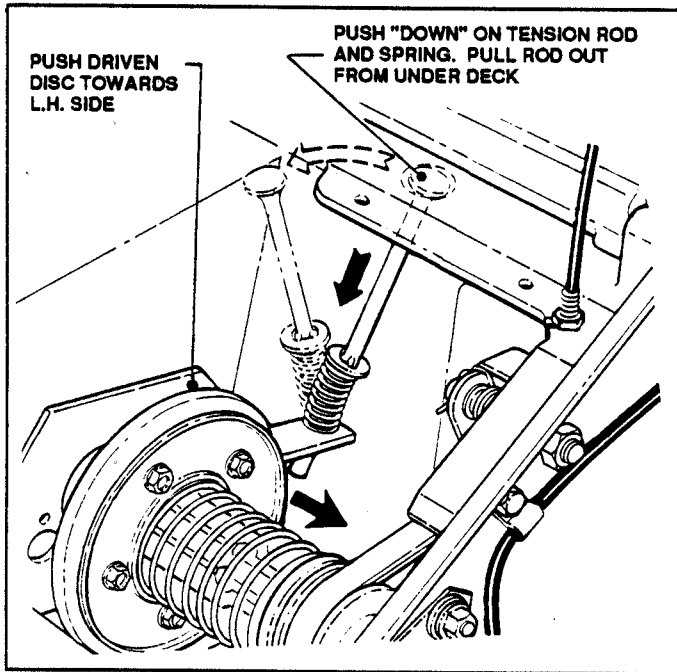

FIGURE 18
6. Push Driven Disc towards L.H. side of mower deck and remove Tension Rod by pressing down on rod and spring and pulling rod out from under deck. See Figure 18.